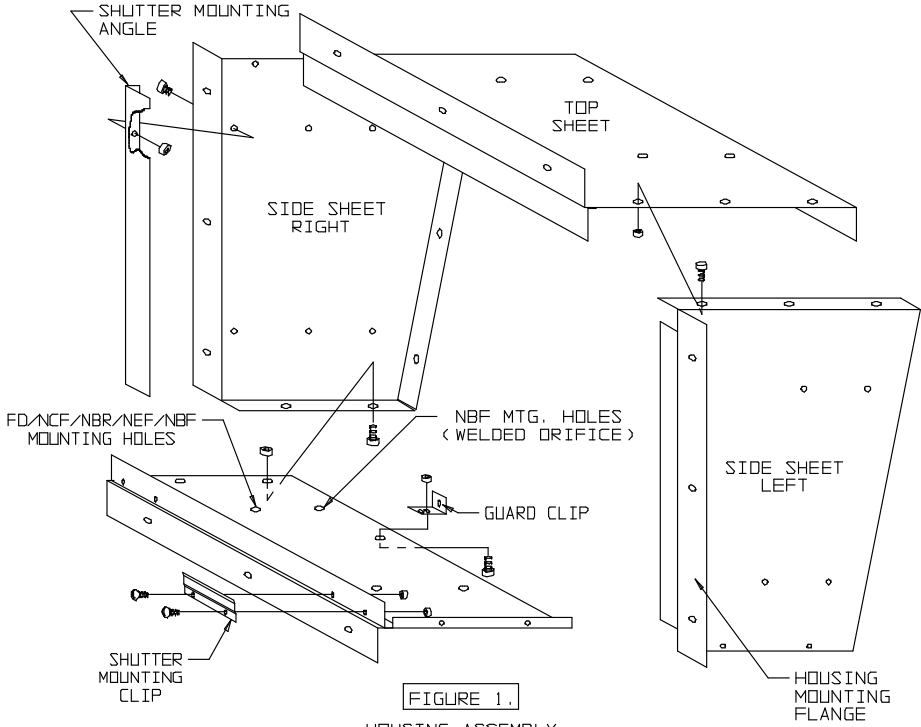
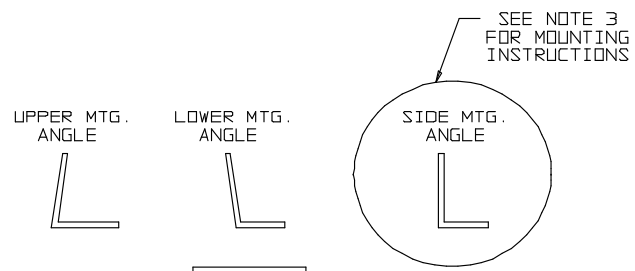
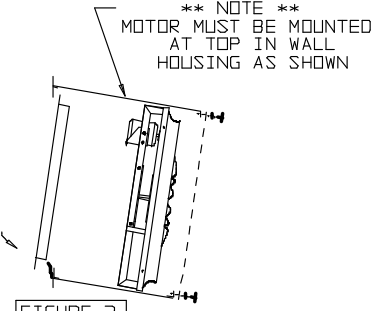

FIGURE 1.
FIGURE 2.
FIGURE 3.
- 2) SEE FORM 220-40 INCLUDED WITH THE FAN FOR ASSEMBLY AND MAINTENANCE INSTRUCTIONS OF FAN AND MOTOR. FOR THE PROPER MOUNTING OF THE MOTOR BRACKET TO THE FAN FRAME, DISREGARD FIGURE 1 ON FORM 220-40 AND INSTALL THE MOTOR BRACKET AS SHOWN IN FIGURE 3 OF THESE INSTRUCTIONS. MAKE SURE THE MOTOR IS MOUNTED ON TOP OF THE MOTOR BRACKET.
- 3) THE SHUTTER MOUNTING ANGLES MUST BE ATTACHED TO THE WALL HOUSING SHEETS. THERE ARE 4 MOUNTING ANGLES OF WHICH TWO ARE THE SAME. IDENTIFY THE MOUNTING ANGLES PER FIGURE 2. THERE ARE 4 WALL HOUSING SHEETS -- THE TWO THAT ARE THE SAME SIZE ARE THE SIDE SHEETS. THE SMALLER RECTANGULAR SHEET IS THE BOTTOM. THE LARGER RECTANGULAR SHEET IS THE TOP. USING 1/4" NUTS AND BOLTS, FASTEN THE SHUTTER MOUNTING ANGLES TO THEIR RESPECTIVE HOUSING SHEETS SO THAT THE TURNED IN FLANGE OF THE ANGLE IS FLUSH WITH THE HOUSING MOUNTING FLANGE. SEE FIGURE 1.
- 4) ASSEMBLE THE BOTTOM AND ONE SIDE SHEET TOGETHER USING 1/4" NUTS AND BOLTS AS SHOWN IN FIGURE 1. THEN PLACE THE FAN ON THE BOTTOM HOUSING SHEET ALIGNING THE HOLES IN THE FAN FLANGES WITH THE FAN MOUNTING HOLES IN THE WALL HOUSING SHEETS. CAUTION: FOR PROPER SHUTTER CLEARANCE, THE FAN MUST BE MOUNTED IN THE HOUSING WITH THE MOTOR AT THE TOP OF THE HOUSING AS SHOWN IN FIGURE 3. NOTE: THERE ARE SIX TYPES OF FANS THAT CAN BE USED IN THE WALL HOUSING. THEY ARE THE TYPE NBF (WITH EITHER OLD STYLE WELDED ORIFICE OR NEWER SPUN ORIFICE), NBC, NCF, NEF OR FD FANS. FOR THE OLD STYLE TYPE NBF FAN WITH THE WELDED ORIFICE RING, MOUNT THE FAN IN THE HOLES CLOSEST TO THE FRONT OF THE HOUSING. FOR THE NEWER TYPE NBF (WITH THE SPUN ORIFICE), NCF, NBC, NEF OR FD FANS, MOUNT THE FAN IN THE HOLES CLOSEST TO THE REAR OF THE HOUSING. SEE FIGURE 1. NOW, ASSEMBLE THE REMAINING HOUSING SHEETS AROUND THE FAN USING 1/4" NUTS AND BOLTS FOR THE HOUSING ASSEMBLY AND FOR MOUNTING THE FAN PANEL TO THE HOUSING. WHEN ASSEMBLING THE WALL HOUSING, DO NOT TIGHTEN ANY HARDWARE UNTIL ALL BOLTS ARE IN PLACE OR IT MAY BE DIFFICULT TO ALIGN SOME HOLES
- 5) ATTACH THE SHUTTER MOUNTING CLIPS TO THE BOTTOM SHUTTER MOUNTING ANGLE USING #10 NUTS AND ROUND HEAD BOLTS. SEE FIGURE 1. WHEN MOUNTING THE SHUTTER TO THE WALL HOUSING, SLIDE THE TOP SHUTTER FLANGE UNDER THE TOP SHUTTER MOUNTING ANGLE AND THEN SLIDE THE SHUTTER DOWN UNTIL THE BOTTOM SHUTTER FLANGE RESTS BETWEEN THE SHUTTER MOUNTING CLIP AND THE BOTTOM SHUTTER MOUNTING ANGLE. SEE FIGURE 3.
- 6) IT WILL BE NECESSARY TO BOLT THE GUARD CLIPS TO THE BOTTOM WALL HOUSING SHEET. ATTACH THE CLIPS USING 1/4" NUT AND BOLT AS SHOWN IN FIGURE 1. THE GUARD CAN THEN BE MOUNTED TO THE FRONT OF THE WALL HOUSING USING 1/4" SELF-TAPPING SCREWS AND LARGE FLAT WASHERS. SELF-TAP THROUGH THE GUARD INTO THE CLIPS ON THE BOTTOM SHEET, AND INTO THE PRE-PUNCHED HOLES ON THE FLANGES ON THE TOP AND SIDE SHEETS. SEE FIGURE 3.